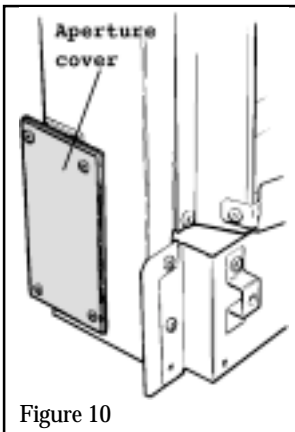

Figure 10
6.6.1 Remove the flue aperture cover and gasket and fit them to the left side (see figure 10). Be careful not to damage the gasket.